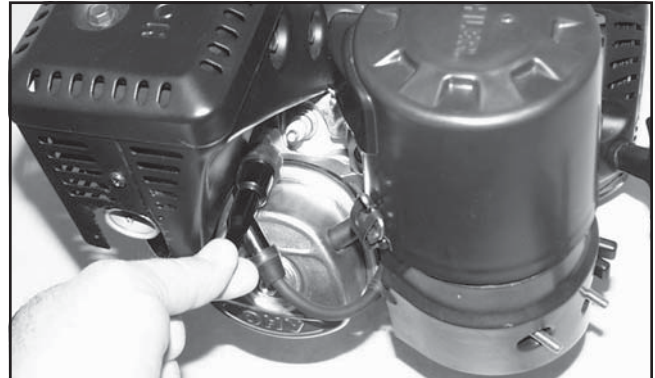

Figure 9-1. Disconnect Spark Plug Lead.
1. Disconnect the lead from the spark plug. See Figure 9-1.